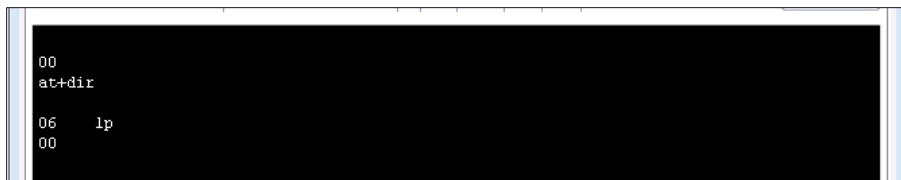

Figure 5: Checking file system
3. You can ensure that the application is loaded by issuing *at+dir* as shown in Figure 5: